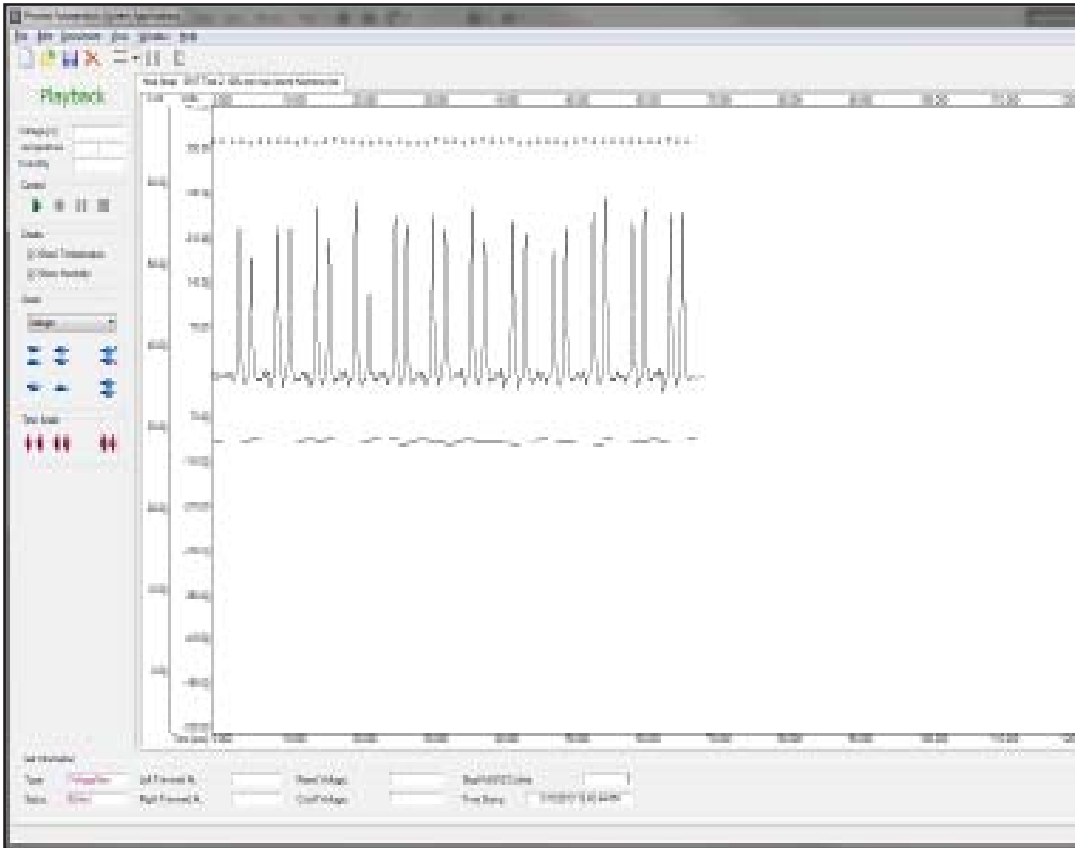

Figure 57: Offloaded File from PGA-710B Autoanalyzer
7. Downloaded Files will be displayed and indicated by **Offload** - # on their file tab ( See Figure 57)